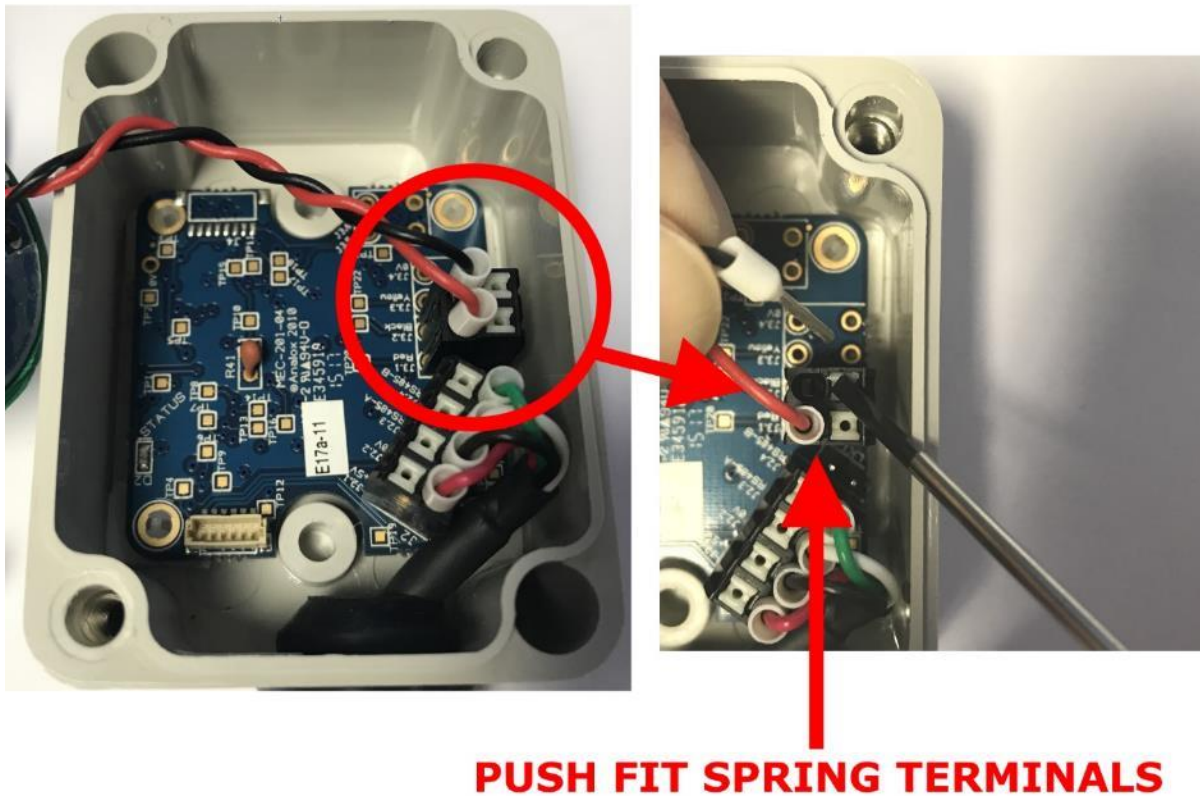

Figure 16 O₂ Cell Push-fit Spring Terminals
- 4] Release the O₂ cell wiring by disconnecting the white connector(see Figure 16)